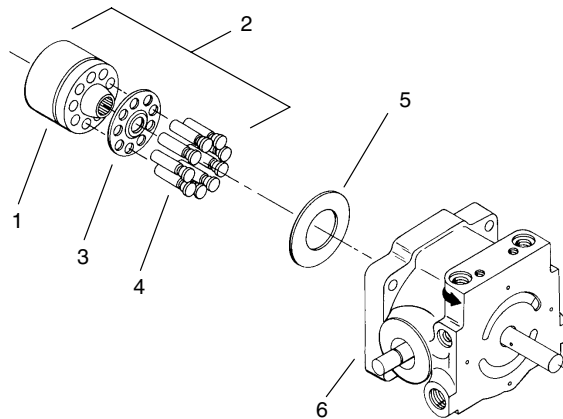

Figure 46
5. Remove cylinder block assembly from the variable housing. Remove thrust plate from the counterbore in the face of the swashplate (Fig. 46).